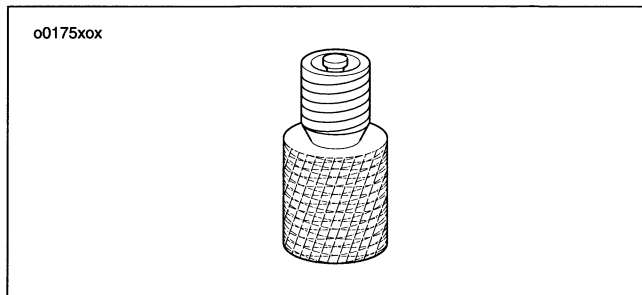

Figure 23. Coaxial Adapter
8. See Figure 23. Remove the chassis mounted coaxial adapter from the antenna bracket. Place in TOUR-PAK or install back onto antenna cable from TOUR-PAK.
9. Install radio antenna on the chassis mount by turning the antenna clockwise (CW)